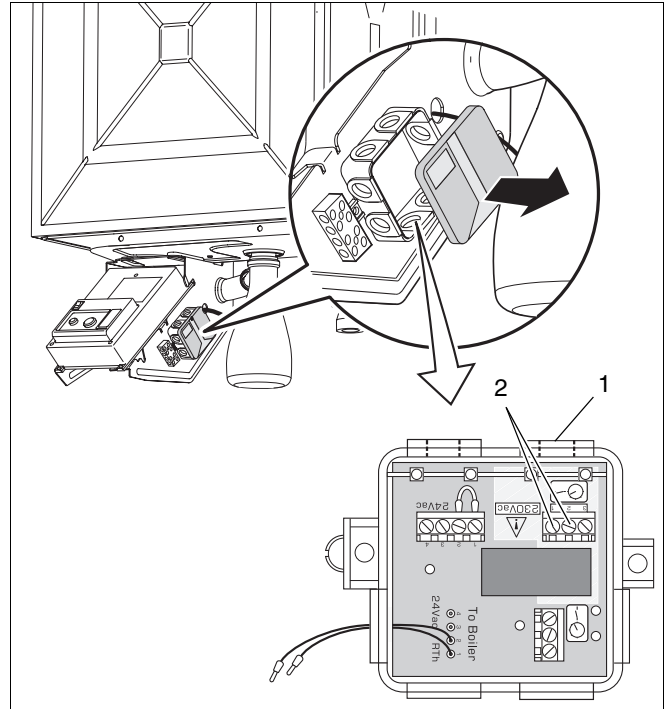

Fig. 15 Connecting the control device
- A room-temperature control device at 230V connected to the RTH converter see fig. 15, item 2.
- Lead the 230V control device wire through the cable lead (see fig. 15, item 1).
- Fix the 230V wire to position 1 and 2 of the 230V connection (see fig. 15, item 2).